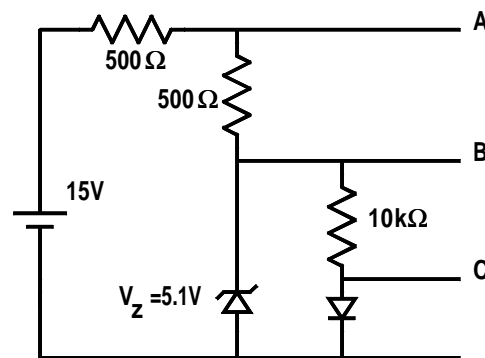

Figure 29.5: Example 29.3.
- 29.3 Calculate the voltages at the points A, B and C in the circuit shown in Figure 29.5.